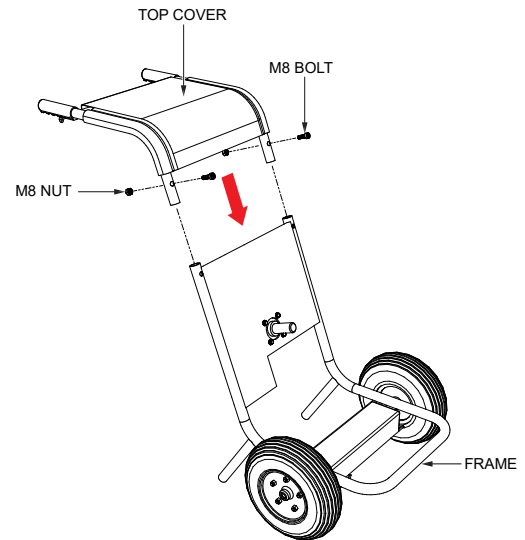

Figure 7. Top Cover Placement
1. Place the mixer frame on a secure level surface, and attach the top cover as shown in Figure 7.